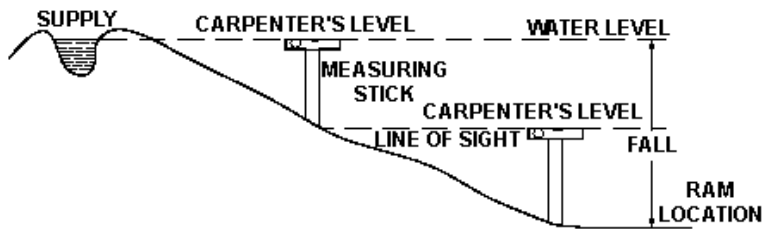

Figure 2. Determining Vertical Fall (F) and Lift Elevation (E) Using a Carpenter's Level
The fall from the supply source to the ram can be determined using a leveling instrument or by using a carpenter's level securely fastened to the top of a pole (See Figure 2). Starting at the proposed ram sight, place the pole-level on the ground and observe where the line of sight hits. Continue in this manner until you reach the level of the source. Add the measurements together to obtain the vertical fall of the water (F) in feet.